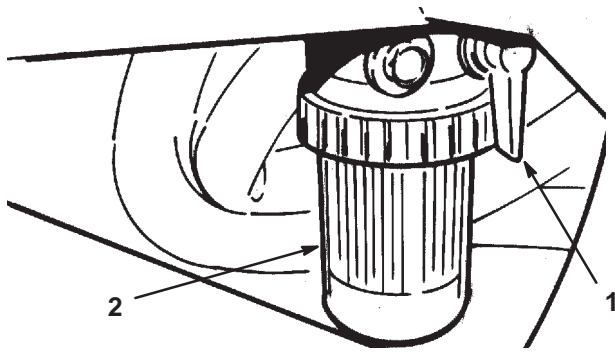

Figure 54
1. Close the fuel shut-off above the filter (Fig. 54).
5. Open the fuel shut-off above the filter (Fig. 54).